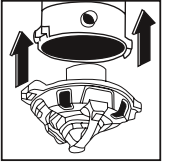

Fig. 9
8. Set the power head back into the container. Align the upper section with the locks. Press with the locks. Press the power head in a position that will allow the blowing port sit in the rear side. (Fig. 9)